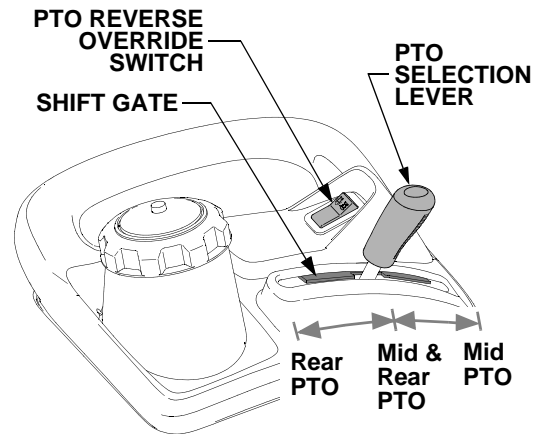

Figure 19
- Shift the PTO selection lever rearward to select the rear PTO. The rear PTO is used to drive equipment designed to operate at an input speed of 540 RPM. See Figure 19.
- Shift the PTO lever forward to select the mid PTO. The mid PTO is used to drive equipment designed to operate at an input speed of 2000 RPM. Refer to Figure 19.
- Shift the PTO lever to the middle position to select both the mid PTO and rear PTO. The mid PTO and rear PTO will run simultaneously when the PTO switch is activated. Refer to Figure 19.
The PTO reverse override switch, located on the *left* fender, allows the PTO to operate while the tractor is traveling in the reverse direction. Refer to Figure 19.